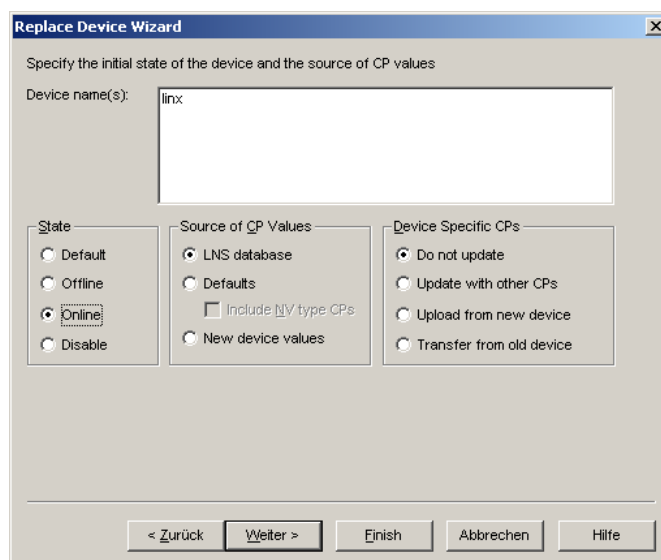

Figure 89: Select online state.
5. Then select **Online** as shown in Figure 89 and click **Next**.